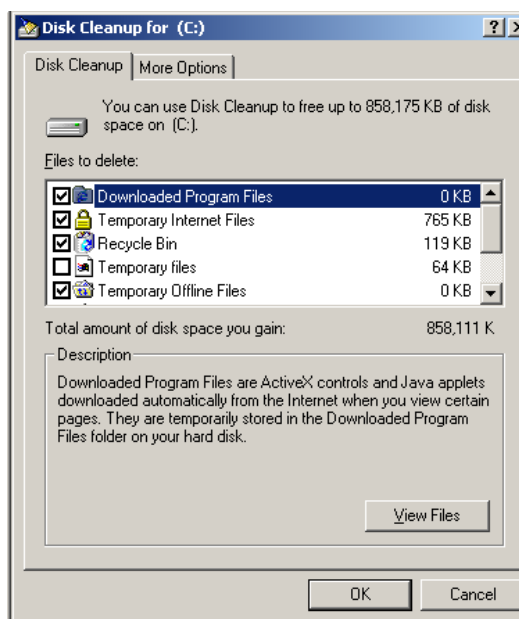

Figure 5-110 Disk Cleanup for (Selected Drive)
3. When Windows finishes calculating the cleanup it displays the **Disk Cleanup for** dialog box. See Figure 5-110. Check or uncheck the desired files to delete and click **OK**. Windows deletes the files and closes the dialog box.